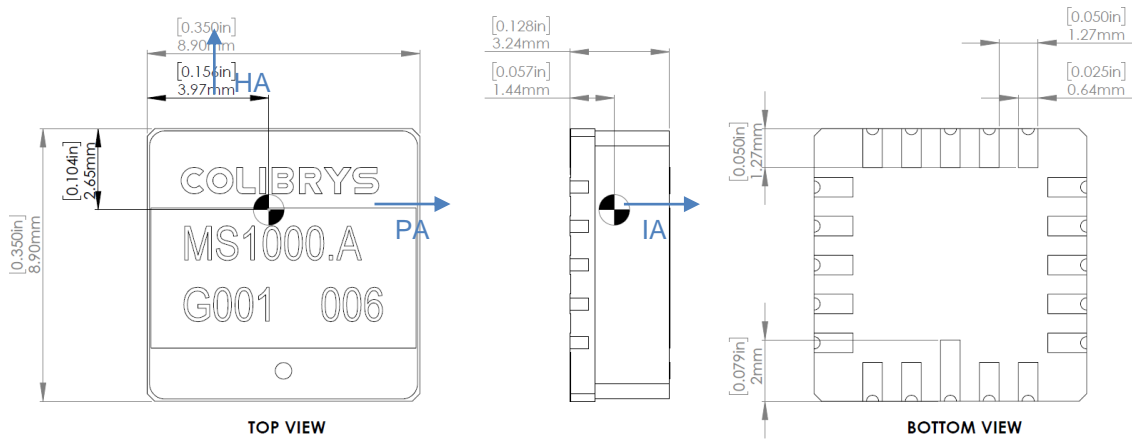

Figure 78: Package mechanical dimension. Units are mm [inch]
The outline of the LCC20 ceramic package and the Center of Gravity (CG) is illustrated in the Figure 78.